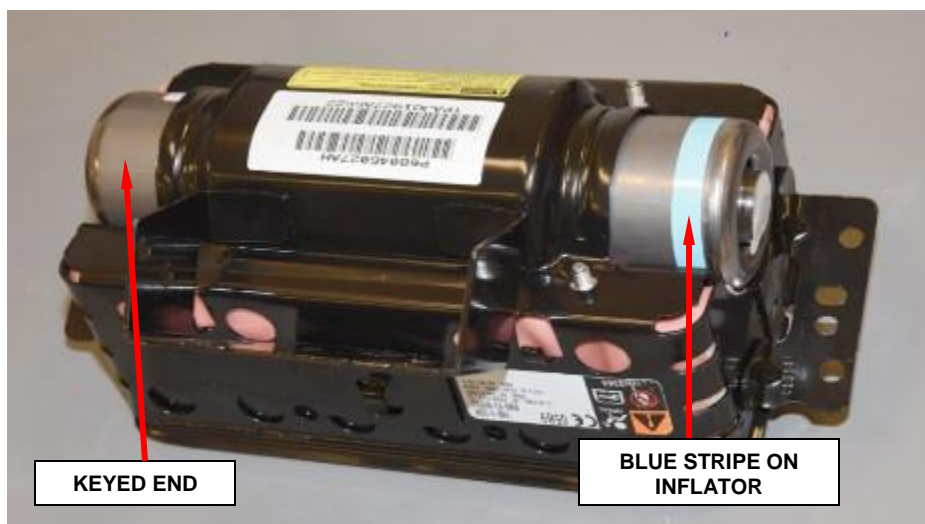

Figure 39 – Insert Inflator (Shown with Cushion Installed)
- h. Slide **new** inflator into housing. The keyed end is inserted first, therefore the blue stripe on the inflator will be located at the open end, as shown (Figure 39).